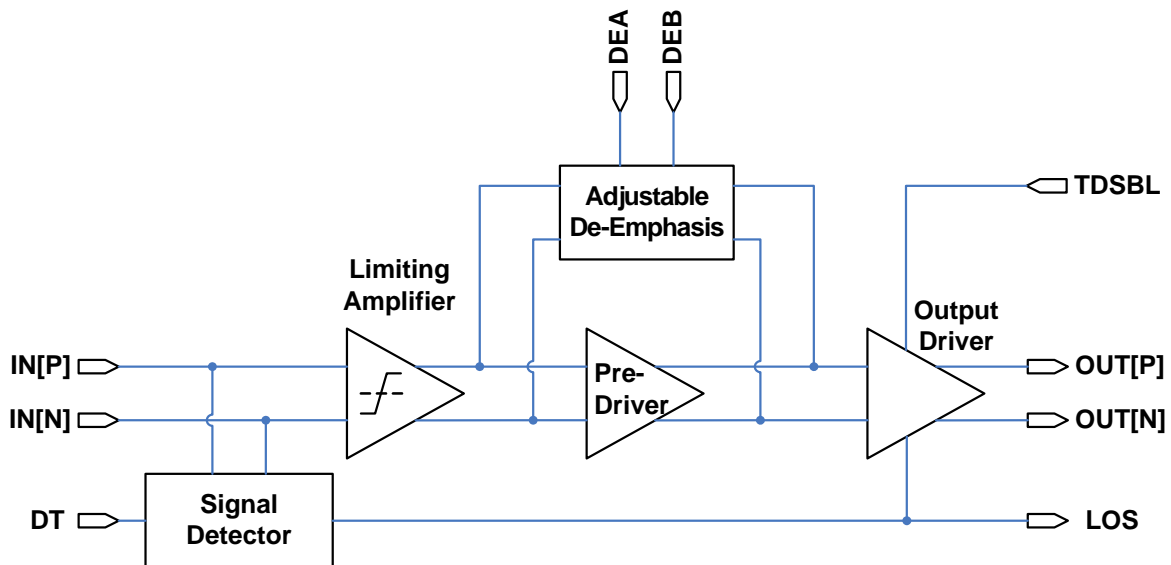

FIGURE 5. FUNCTIONAL BLOCK DIAGRAM OF THE ISL35111
The ISL35111 is an advanced driver for high-speed interconnects. A functional diagram of ISL35111 is shown in Figure 5. In addition to a de-emphasis circuit to compensate for FR4 channel loss and restore signal fidelity, the ISL35111 contains unique integrated features to preserve special signaling protocols typically broken by other drivers. The signal detect function is used to mute the channel output when the input signal falls below the level determined by the Detection Threshold (DT) pin voltage. This function is intended to preserve periods of line silence.
As illustrated in Figure 5, the core of the high-speed signal path in the ISL35111 is a sophisticated driver followed by a de-emphasis circuit. The device applies pre-distortion to compensate for skin loss, dielectric loss, and impedance discontinuities in the transmission channel.